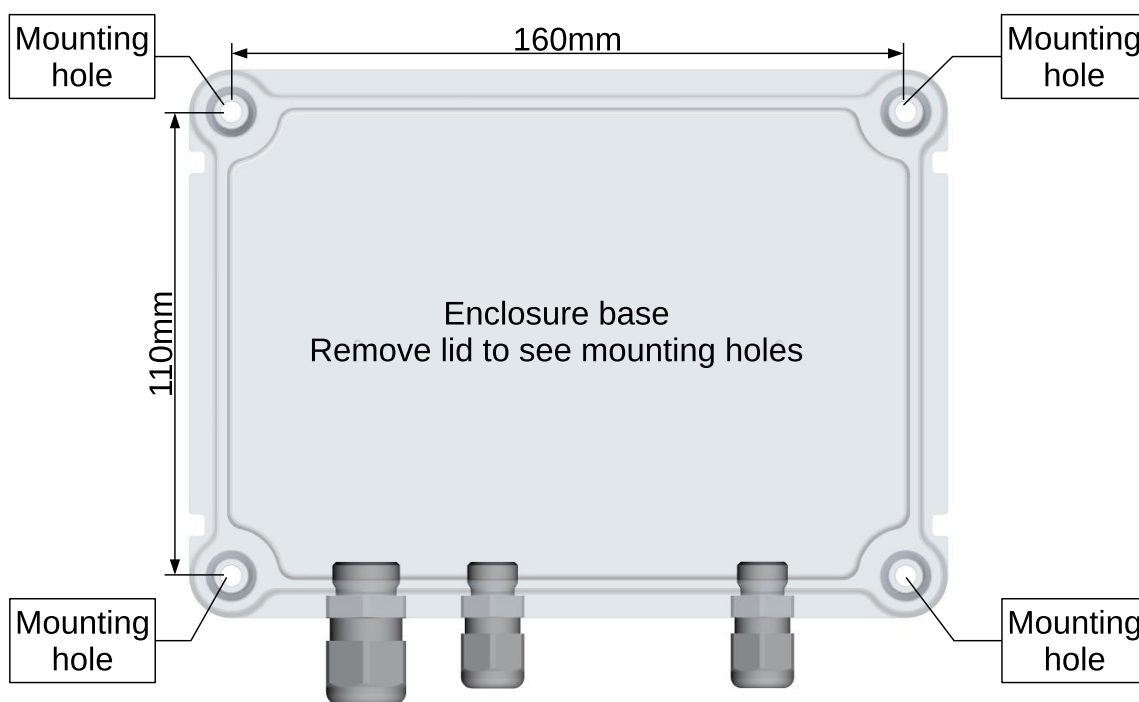

Figure 2 - Enclosure mounting hole positions
- ⚠ Only use the mounting points shown in Figure 2. Do not drill holes in the enclosure or otherwise modify it as this would affect the IP65 rating and may allow water and/or moisture to enter the enclosure, affecting the correct function of the alarm and/or electrical safety, resulting in a potential electric shock hazard. It would also invalidate the ATEX/UKEX/IECEx certification.
2. Use the mounting points provided on the enclosure to mount in the position required. See Figure 2 for mounting points and dimensions.